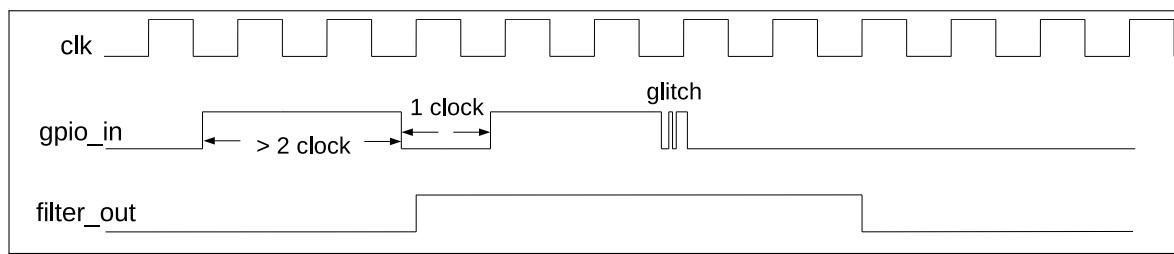

Figure 5-4. Filter Timing of GPIO Input Signals
2. Optionally enable the filter for pin input signals by setting `IO_MUX_GPIOn_FILTER_EN`. Only the signals with a valid width of more than two clock cycles can be sampled, see Figure 5-4.